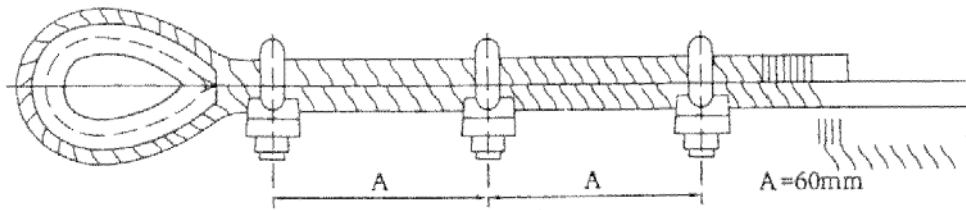

Figure 8: The Correct Clamping Method
4.7.3 The fixing method at the end of steel rope should be in accordance with the requirements of the standard GB5976-86 (see figure 8 as below). U bolt is fixed on the rear portion of steel ropes; clamp is fixed on the working section of steel ropes, which cannot be mixed up. The steel rope clamp cannot be alternately arranged on the steel rope, and the correct clamping method is as follows:
- b. Arrangement of the clamps (see figure 8 above);